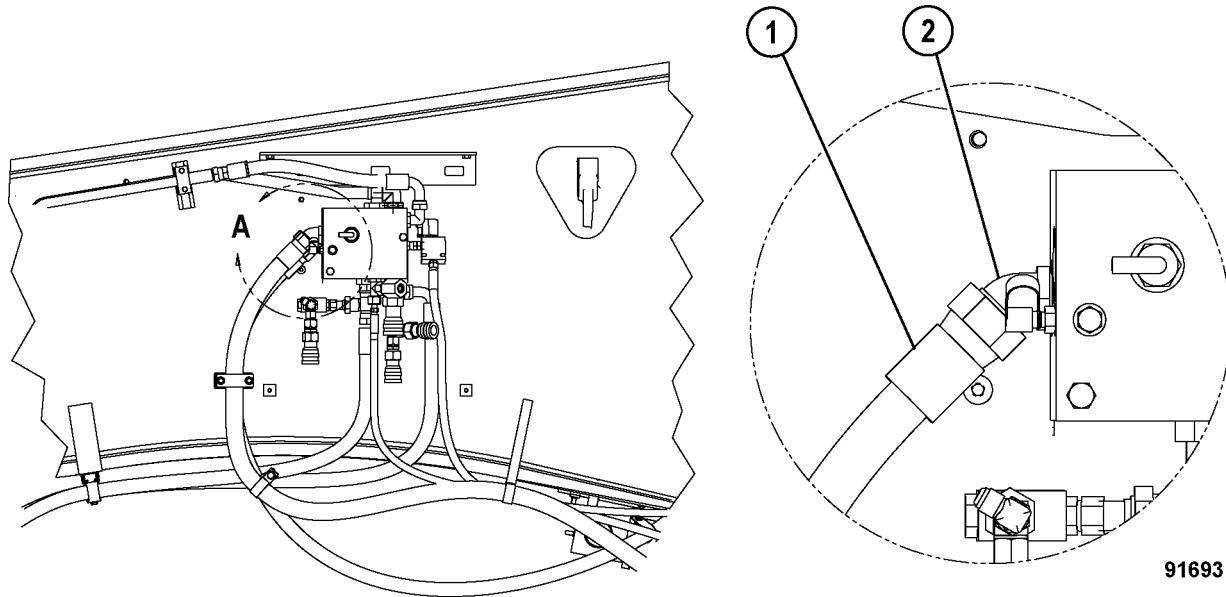

FIGURE 1. CURRENT DESIGN
Some trucks in operation may experience a hydraulic oil leak at elbow fitting (2, Figure 1). Current routing of supply hose (1) can exert excess stress on elbow fitting (2). This excess stress can cause a failure of this fitting.